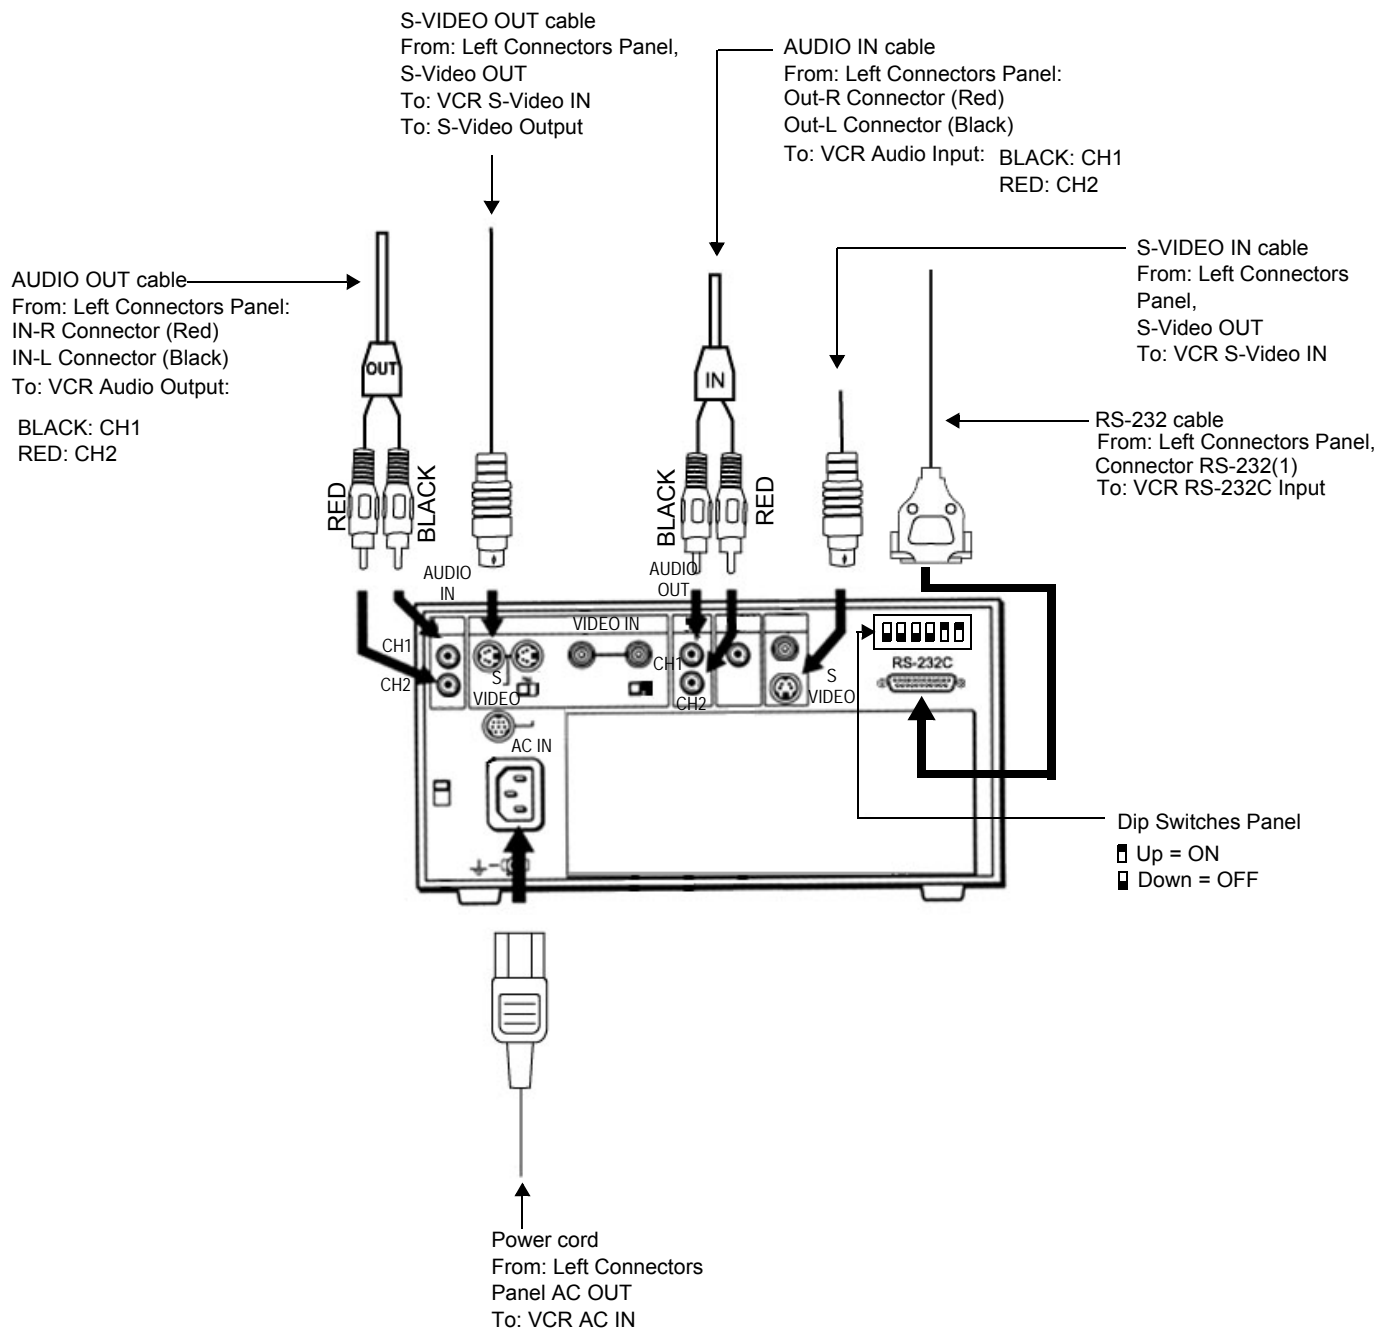

Figure 8-122 Sony VCR Connection Cables
- 2.) Connect the RS-232C cable, the Audio and S-Video IN and OUT cables, and the Power cord, as shown in Figure 8-122 below.
- 3.) Disconnect the RS-232C cable, the Audio and S-Video IN and OUT cables, and Power cord from VCR's rear as shown in Figure 8-122 on page 8-128.
- 3.) Disconnect the RS-232C cable (with adaptor), the Audio and S-Video IN and OUT cables, and the Power cable from the rear of the VCR as shown in Figure 8-122 on page 8-128.